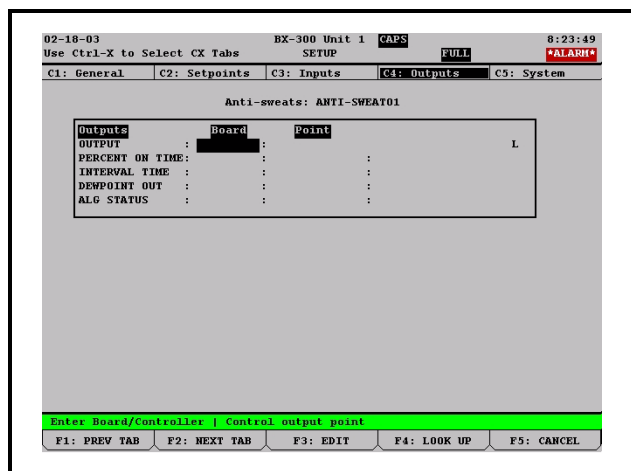

Figure 4-7 - Anti-Sweat Outputs Setup Screen
2. Press **F2** (NEXT TAB) to advance to the Outputs Setup screen (*Figure 4-7*).